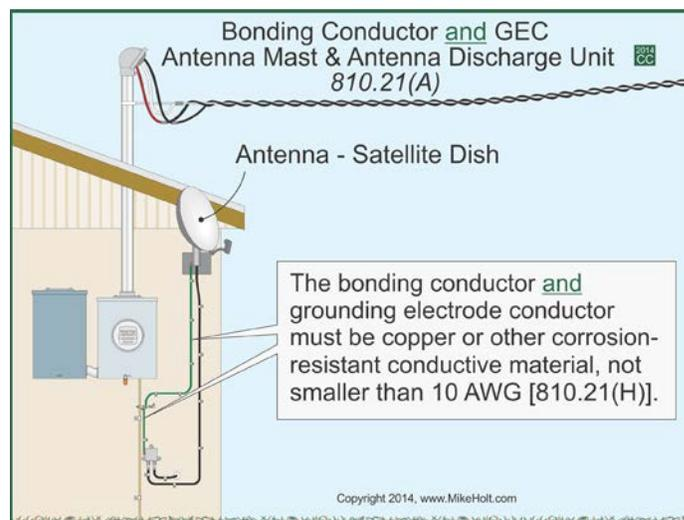

Figure 810–11
**(A) Material.** The bonding conductor or grounding electrode conductor to the electrode [810.21(F)] must be copper or other corrosion-resistant conductive material. **Figure 810–11**